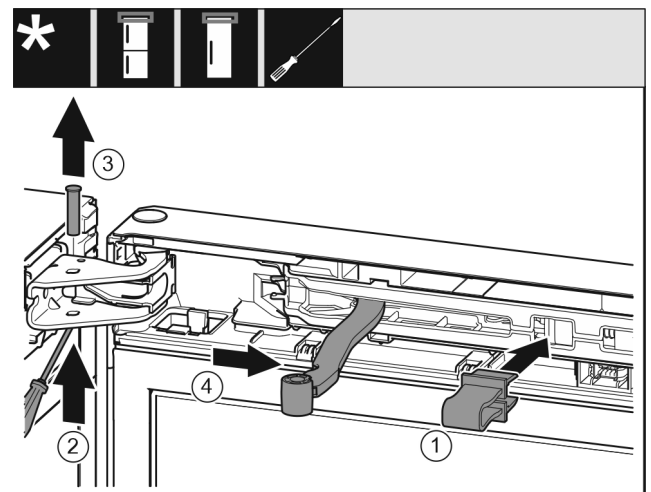

Fig. 9
- ▶ Engage the locking device in the opening. Fig. 9 (1)
- ▶ Unscrew the bolt with a screwdriver. Fig. 9 (2)
- ▶ Remove the bolt upwards. Fig. 9 (3)
- ▶ Turn the hinge in the direction of the door. Fig. 9 (4)